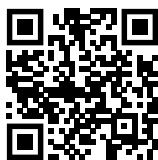

Fig. 127
- ▶ Åbn Liebherr SmartMonitoring Dashboard. (se Fig. 127)